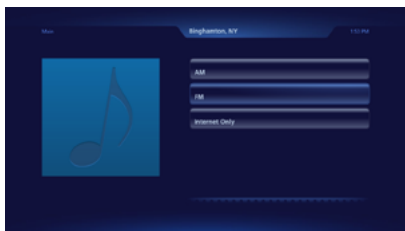

Figure 23
5. There are now menu choices AM, FM or Internet only radio stations. Referring to figure 23, use the + (Up) or - (Down) Push-button to select FM, followed by pressing the the ►|| (SELECTS) Push-button.